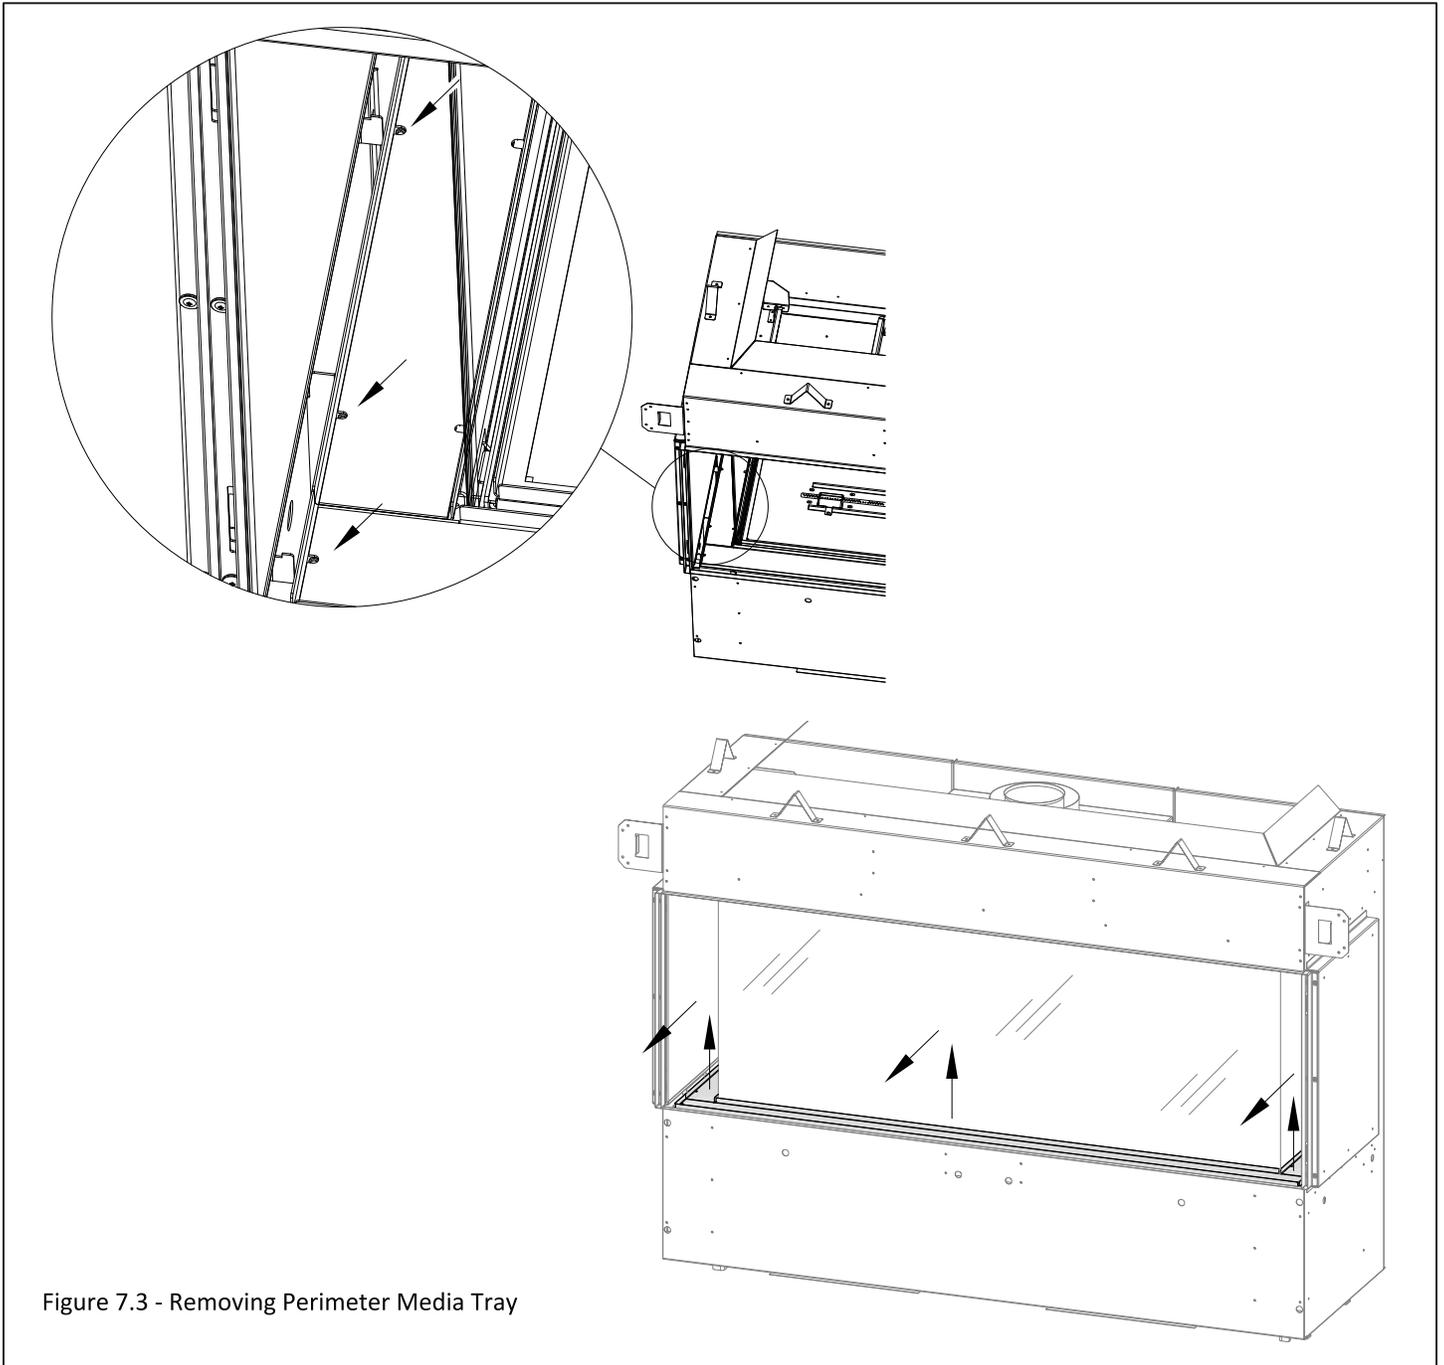

Figure 7.3 - Removing Perimeter Media Tray
1. After the safety glass is removed locate the (3) sheet metal screws that secure each side media tray and the front media tray. See Figure 7.3.
2. After removing the sheet metal screws you can lift up and remove the media trays. See Figure 7.3. Reinstall in reverse order.
1. Remove the perimeter media tray by lifting it up and out of the slot it is installed. See Figure 7.3.